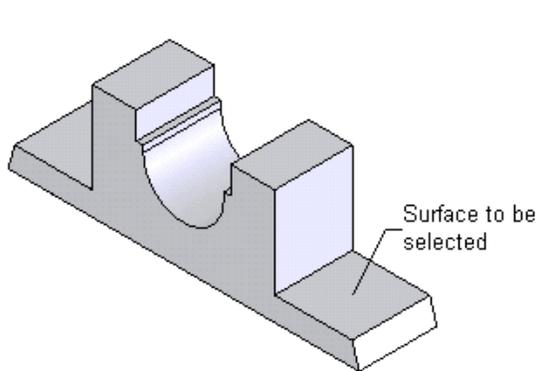

Figure 6-83 Surface to be selected for the cut feature
7. Select the surface for feature termination shown in Figure 6-83 and right-click to end feature creation.